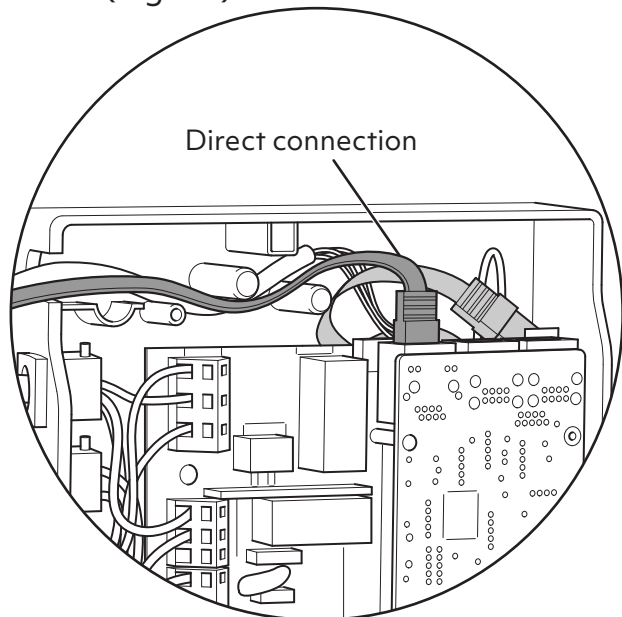

Fig. 25
2. Replace the removed ethernet cable with a suitable direct connection to the network (broadband router/switch) (Fig. 25).